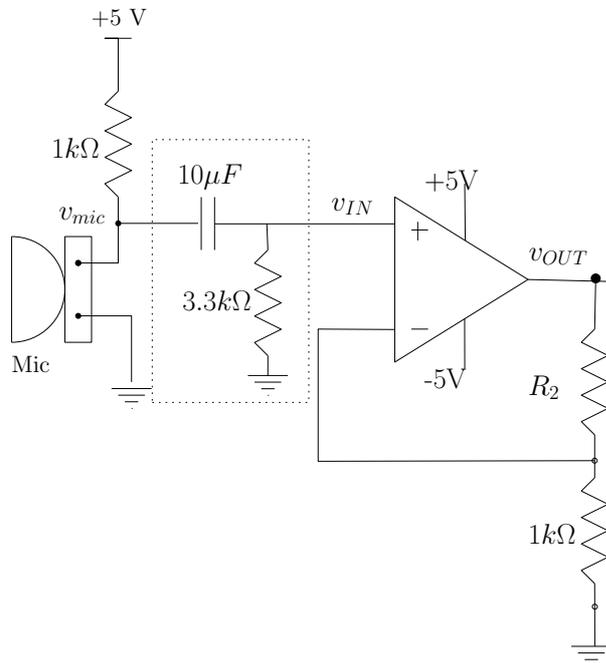

Figure 4: Using an OP-Amp for amplifying mic signal.
6. Next, replace the function generator by the dynamic microphone as shown in Figure 4. Using the two channels of the scope verify approximately that the microphone signal is amplified by the desired amount. What is the purpose of  $3.3k\Omega$  and  $10\mu F$  (marked by a dotted box) in this circuit?